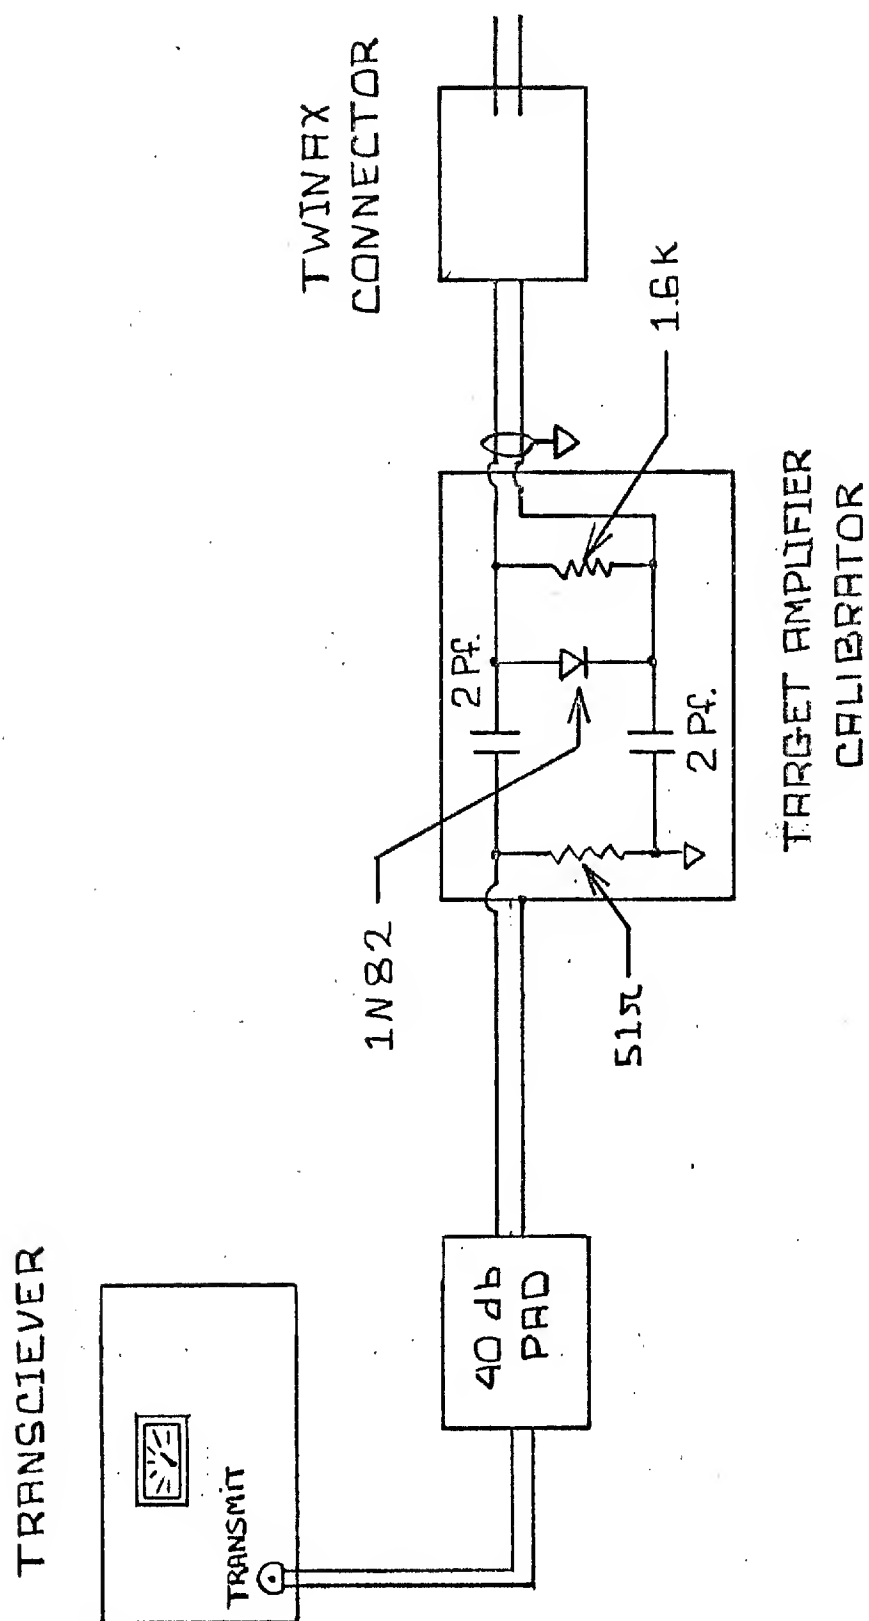

FIGURE 20. USE OF TARGET AMPLIFIER CALIBRATOR
- e. Unplug, one at a time, each antenna connector and substitute for it the Target Amplifier Calibrator. This calibrator takes the transmitted signal and gives a video output of proper level for amplifier adjustment. Its circuit is shown in Figure 20. NOTE: It is very important to have the other two antennas plugged into their appropriate connectors when adjusting an amplifier with the Target Amplifier Calibrator.